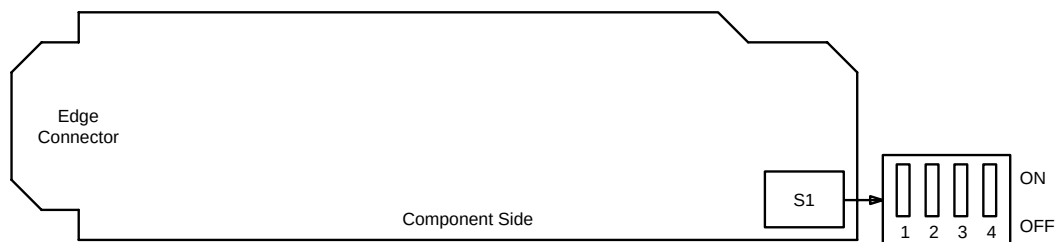

Figure 1. BBF2 TGS Option Switch
Refer to Table C and Figure 1 and set the timing mode as required for the new **BBF2 TGS** circuit pack(s).
10. Refer to Table D and Figure 1 and set the DS1 line coding and frame format as required for the **TGS** circuit pack.